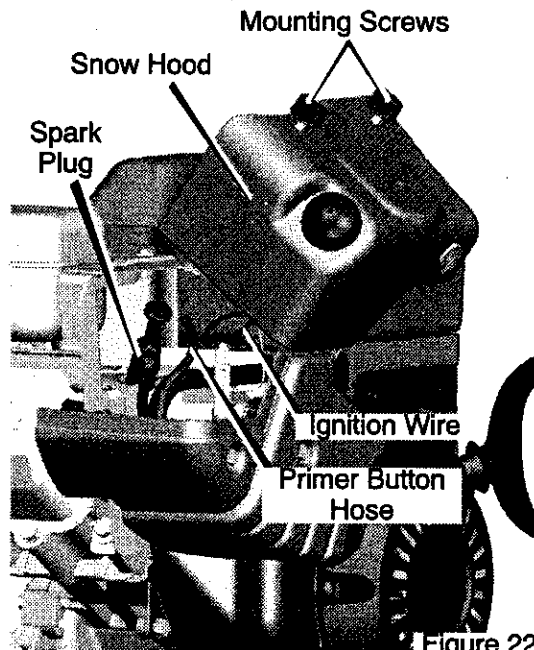

Figure 22
3. Remove the **mounting screws** (see Figure 22).
7. Mount the snow hood to the engine and secure with the mounting screws (see Figure 22).